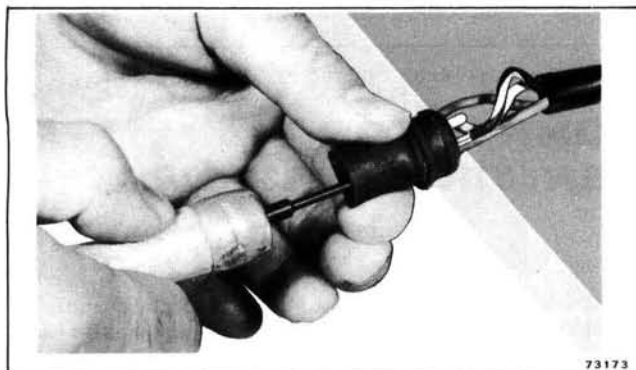

Figure 4-10. Removing Terminal from Connector
d. Insert the removal tool onto the terminal and push the terminal from the connector. See Figure 4-10.